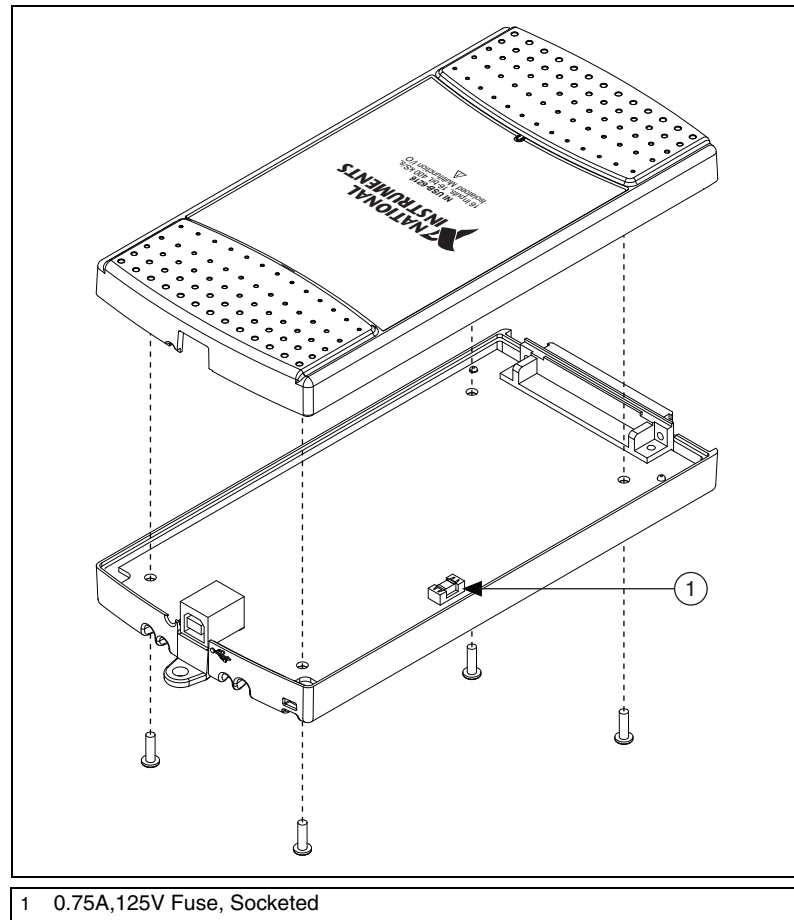

Figure 3-2. USB-621x Mass Termination Fuse Location
To replace a broken fuse in the USB-621x Mass Termination, complete the following steps while referring to Figure 3-2.
3. Replace the broken fuse in the socket. Figure 3-2 shows the fuse location.